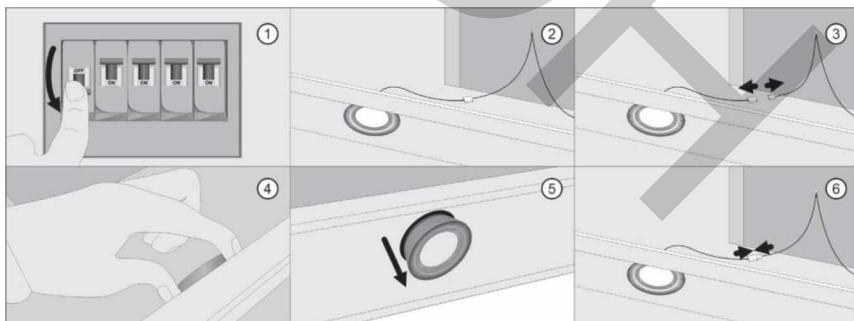

Fig. 15 Light lamps changing
Power off the device before lamps changing. (Fig. 15. 1)
1. Raise the cooker hood glass up and remove aluminum fat filter (Fig. 15. 2)
power supply cable by pressing the latch (Fig. 15. 3)
3. Find two lamp fixing plates inside the cooker hood, press it with fingers and push the lamp down (Fig. 15. 4, 5)
4. Install new lamp of the same type and specifications (12 V, 1.5 W), and consequently connect it to power. (Fig. 15. 6)